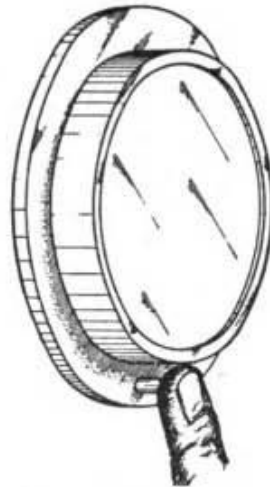

Figure 40. Checking the fuel system warning light.
g. Fuel-warning light. Press the test light switch to check the condition of the light bulb. (See fig. 40.) Closely observe the fuel pressure